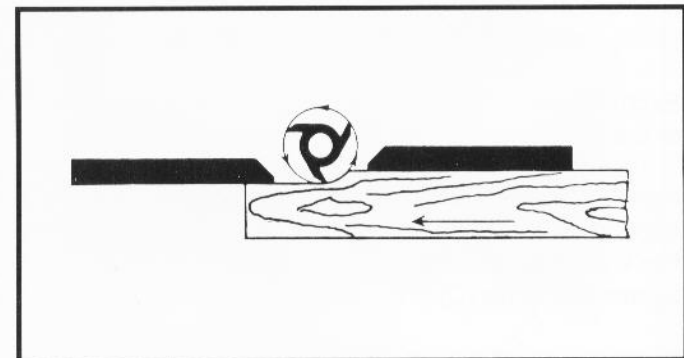

Fig. 29
3. The rear fence should then be advanced to contact the work, as shown in Fig. 29. The rear fence will then be in line with the cutting circle.